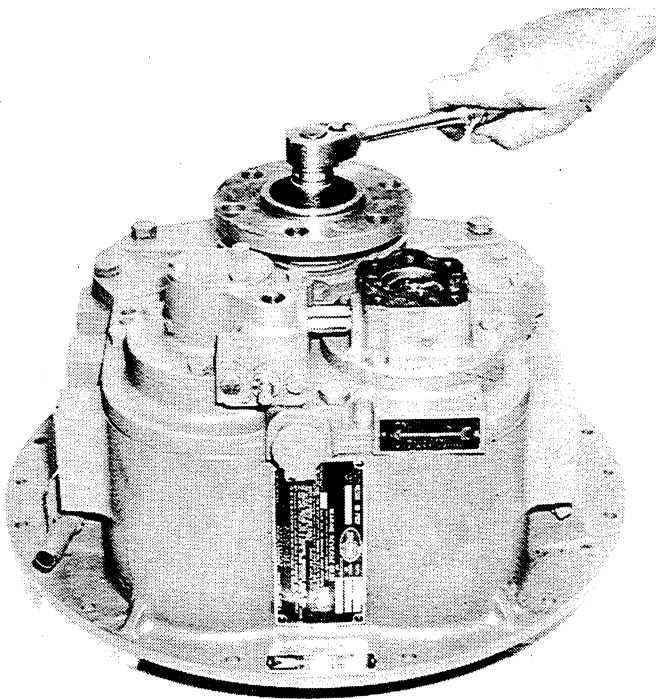

Figure 6-5. Removing Output Flange.
14. Remove the hex-head capscrew (Figure 12-2, 29) and the retainer washer (28) that secure the output flange (26) on the output shaft (19). See Figure 6-5. Some ratios have three capscrews on the output flange. Use a standard gear puller and remove the output flange (Figure 12-2, 26) from the output shaft (19). Remove the lathe cut ring (27) from the output flange (26). Discard the seal ring.